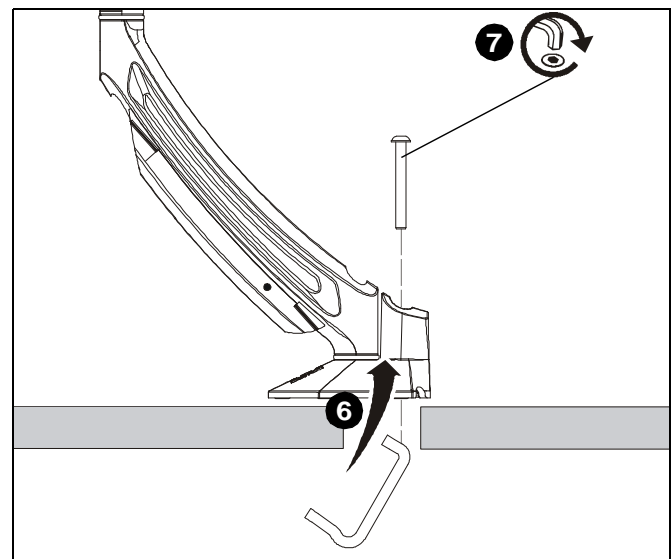

Figure 8
5. Place mount on desk over grommet hole. (See Figure 8)
6. Manuever desk clamp through grommet hole and into mount. (See Figure 8)
7. Reinstall button head cap screw into clamp and tighten until secure. (See Figure 8)